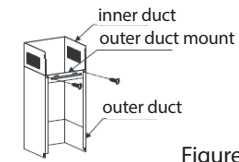

Figure 4
5. Install the outer duct mount using 2 ST4*8mm screws, ensuring that the inner duct remains flexible. See figure 4